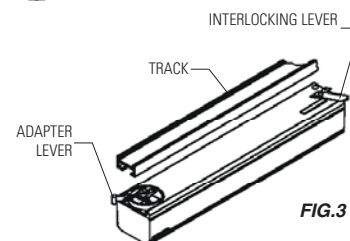

FIG.3
2. Align locking lever 60° counter-clockwise. (Fig.3)